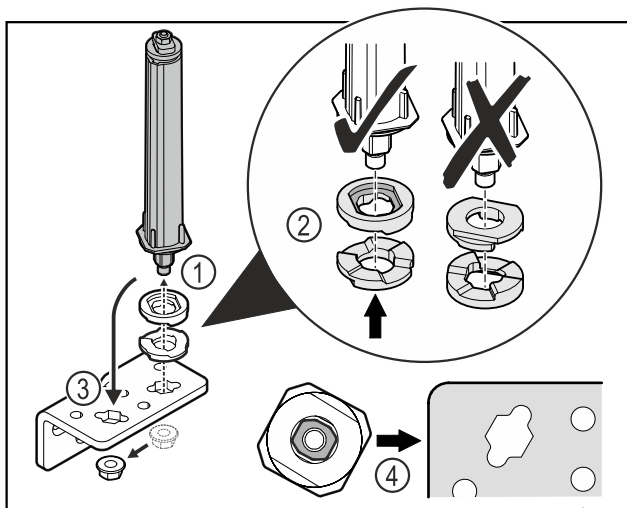

Fig. 51
- Loosen the nut and remove the door closing system Fig. 51 (1).
- Observe the correct alignment of the height adjustment washers Fig. 51 (2).
- Put the door closing system in the hinge and fix in place with the nut Fig. 51 (3).
- Observe the correct alignment of the door closing system when doing so Fig. 51 (4).